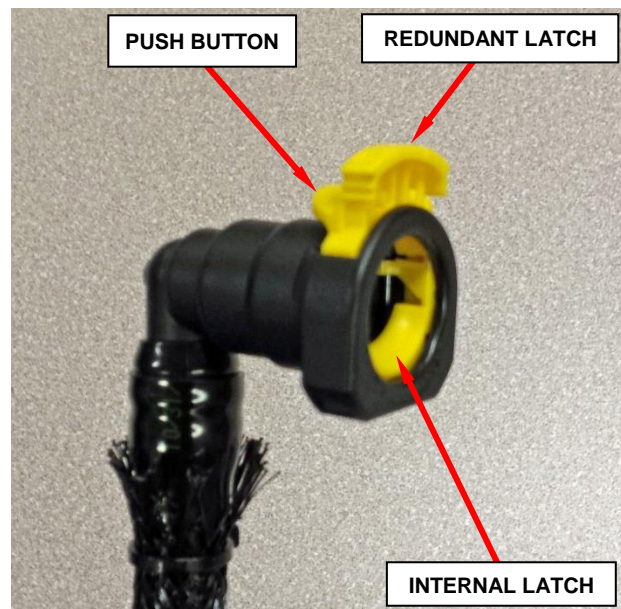

Figure 10 – Quick-Connect Fitting
NOTE: This type of quick-connect fitting is equipped with a redundant latch and a single push button that releases the internal latch located in the quick-connect fitting. Special tools are not required for removal (Figure 10).
- a. Pull the redundant latch out away from the quick-connect fitting (Figure 10).
- b. Press the push button to release the internal latch, then remove the quick-connect fitting from the fuel system component (Figure 10).